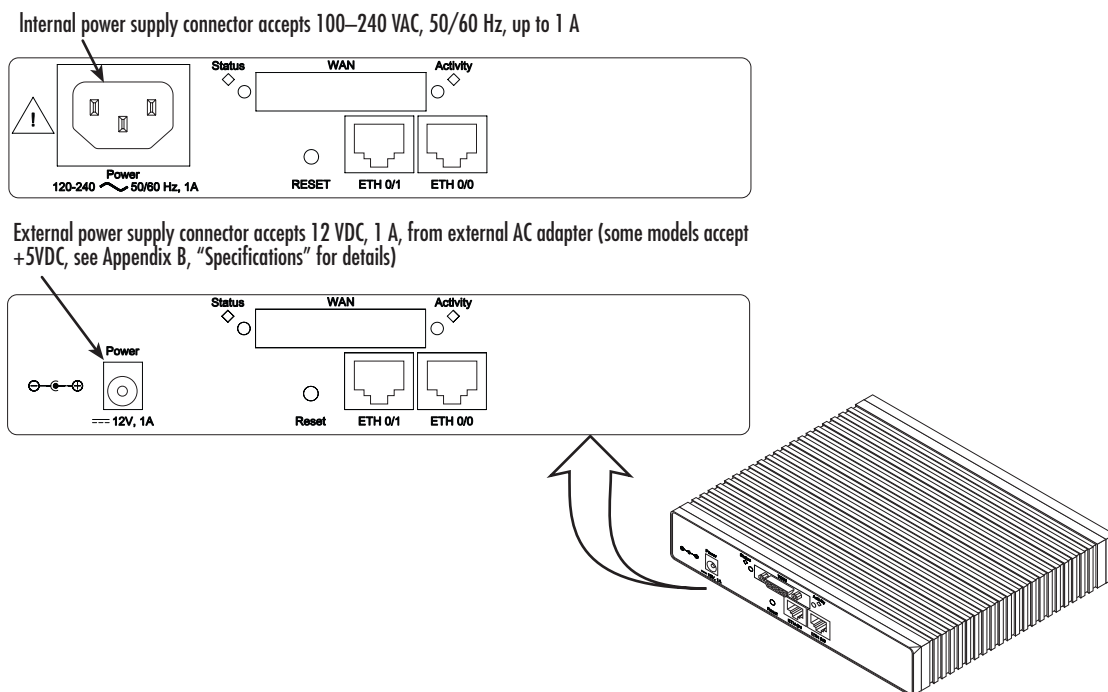

Figure 8. Power connector location on rear panel
1. If your unit is equipped with an internal power supply, go to step 2. Otherwise, insert the barrel type connector end of the AC power cord into the external power supply connector (see figure 8).
2. Insert the female end of the power cord into the internal power supply connector (see figure 8).